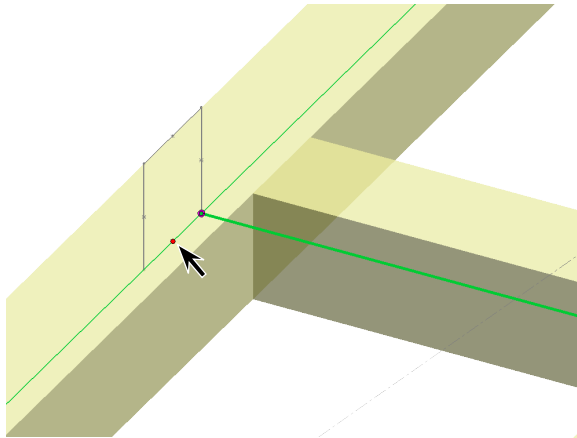

Fig. 25
Step 16. Click **BOTTOM MIDDLE POINT** of profile sketch, **Fig. 25**.